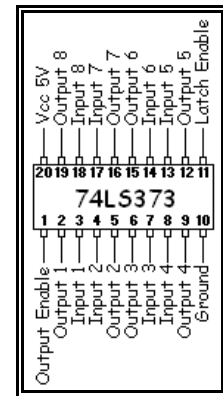

Figure 12
Step 1) Set the input pin(s) to 5 volts or 0 volts as desired (Figure 12).